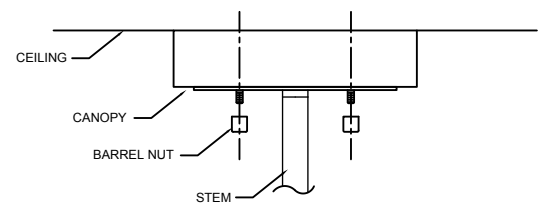

FIGURE-04
8. Pull up & attach the canopy to the mounting ring and secure it with barrel nuts. (See Figure-04)